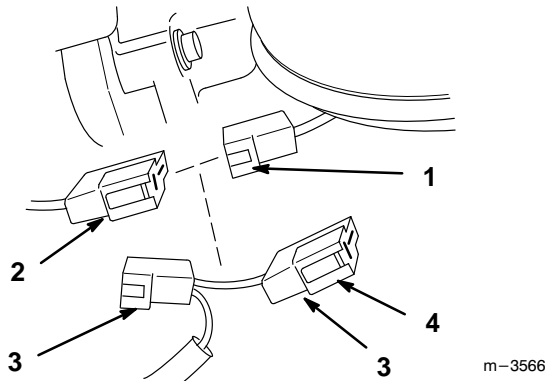

Figure 14
8. Unplug clutch connector from existing main wire harness (Fig. 14). Located below and behind muffler.
9. Insert new jumper connectors of new wire harness between clutch connector and main wire harness. Align connectors and push together firmly so latches lock (Fig. 14).